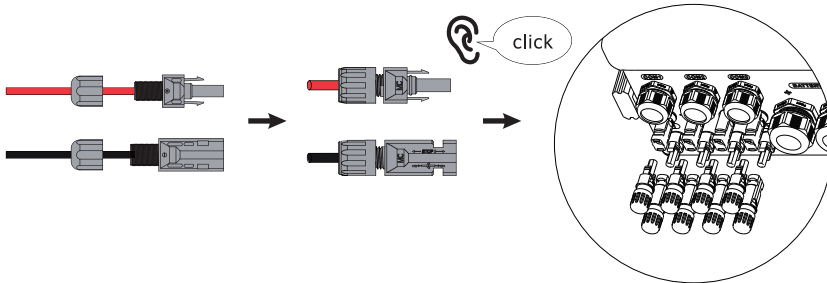

Figure 4.1-4 The PV plug is connected to the inverter
**Step 4.** Screw the cap on and plug it onto inverter side. There will be a click sound if connectors are inserted correctly into PV plugs, as shown in Figure 4.1-4.